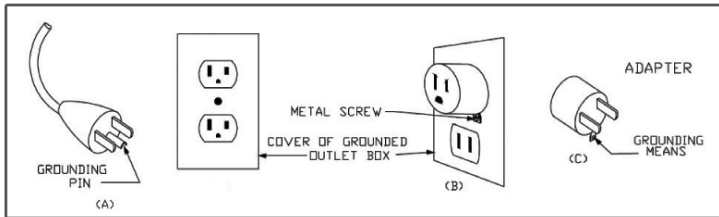

Figure 65.1
- 13.** This GARMENT STEAMER is for use with a 120 volt electrical outlet. The cord has a plug as shown at A in Figure 65.1. An adapter, as shown at C, can be used to connect three-blade grounding-type plugs to two-slot receptacles (it is not included with your product). The green grounding lug extending from the adapter must be connected to a permanent ground such as a properly grounded outlet box. An adapter should not be used if a three-slot grounded receptacle is available. *NOTE: A TWO-PRONG ADAPTOR IS NOT INCLUDED WITH THIS PRODUCT.